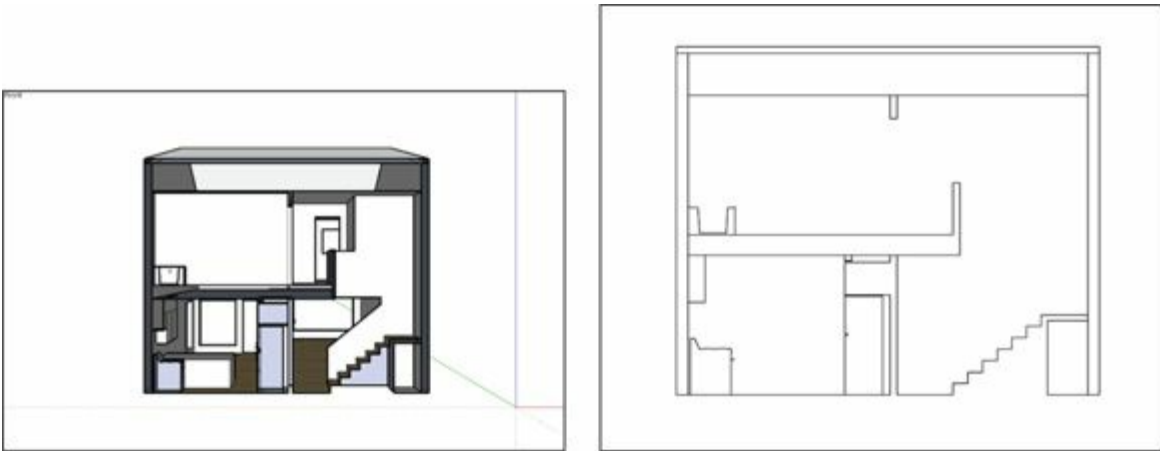

FIGURE 12-4: Printing only the 2D section slice yields a simple drawing that's easy to sketch over.
- » **2-D Section Slice Only:** If you have a visible section cut in your model view, selecting this check box tells SketchUp to print only the section cut edges. Figure 12-4 shows what the same model view would look like without (on the left) and with (right) this option selected. You can use this option to produce simple plan and section views.